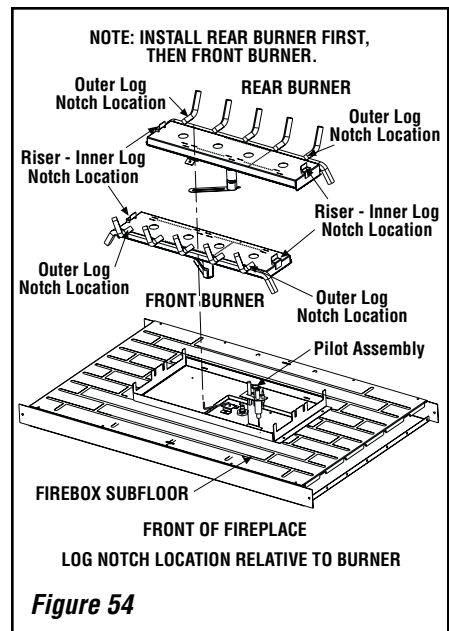

Figure 54
- Place the log set so that the four inner notches on the underside of the log set fit over the four risers located on the burner ends. See **Figure 54**. This procedure is accomplished primarily by feel, as the log set masks the burner risers as it is being installed.